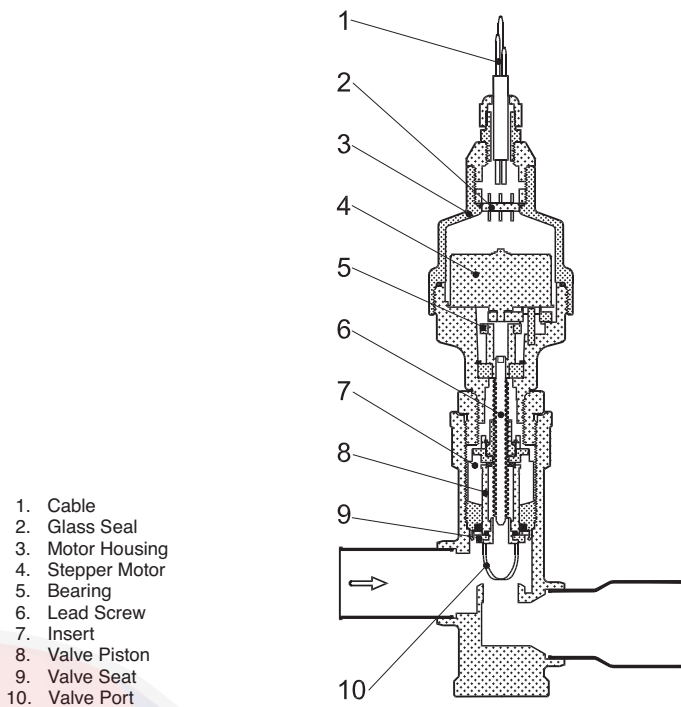

Fig. 26 — Cutaway View of the Electronic Expansion Valve
Electronic Expansion Valve (EXV) — See Fig. 26 for a cutaway view of the EXV. High-pressure liquid refrigerant enters valve through the top. As refrigerant passes through the orifice, pressure drops and refrigerant changes to a 2-phase condition (liquid and vapor). The electronic expansion valve operates through an electronically controlled activation of a stepper motor. The stepper motor stays in position, unless power pulses initiate the two discrete sets of motor stator windings for rotation in either direction. The direction depends on the phase relationship of the power pulses.
3. The expansion valve motor is hermetically sealed inside the top portion of the valve. See Fig. 26. Carefully unscrew the 1¹/₁₆ in. (27 mm) retaining nut securing the motor portion to the body of the valve making sure the EXV plug is still connected. The EXV operator will come out with the motor portion of the device.
4. Enter the appropriate EXV test step under the (*Service Test*→*QUIC*) sub-mode in the Service Test mode. Locate the desired item *Service Test*→*QUIC*→*EXV.A*, *Service Test*→*QUIC*→*EXV.B*, or *Service Test*→*QUIC*→*EXV.C*. Press **ENTER** twice to make the valve position of 0% flash. Press and hold **▲** until 100% is displayed and press **ENTER**. Observe the operation of the lead screw. See Fig. 26. The motor should be turning, raising the operator closer to the motor. Motor actuator movement should be smooth and uniform from fully closed to fully open position. Press **ENTER** twice, use **▼** to select 0% and press **ENTER** again to check open to closed operation. If the valve is properly connected to the processor and receiving correct signals, yet does not operate as described above, the sealed motor portion of the valve should be replaced.